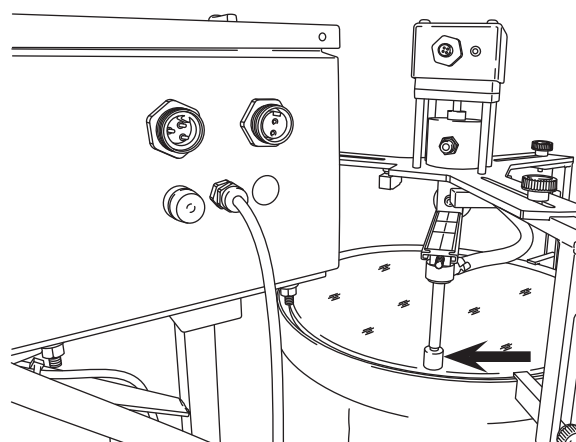

Figure 10
3. Manually rotate the drive disc counterclockwise (CCW) until the nozzle and puck are as close to the outer edge of the DPF substrate as possible. Refer to Figure 10.